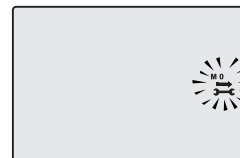

Figure 4.5
N.B.: The flashing symbol in Figure 4.5 is not an error. The boiler continues to run normally but it indicates the expiry of the maintenance period.